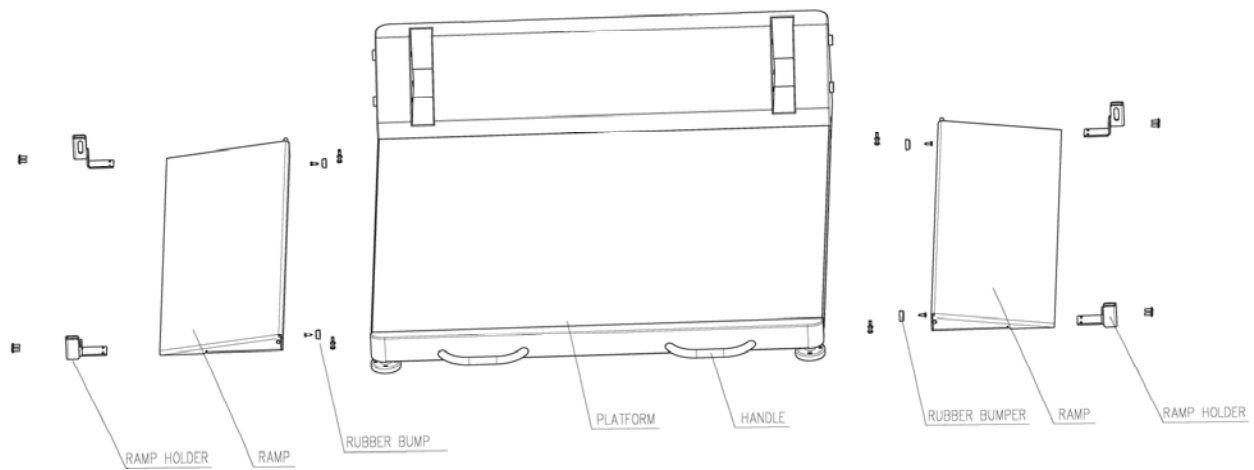

Figure 10
4. Remove the screws attaching the 2 rubber bumpers, located on the side of the platform (see Figure 10).
5. Remove the bumpers, and re-install them on the opposite side of the platform. Use the appropriate mounting holes (see Figure 10).
1. From its upright folded position, gently lower the scale onto its feet. Use the scale handles, located on the front of the platform (see Figure 10).